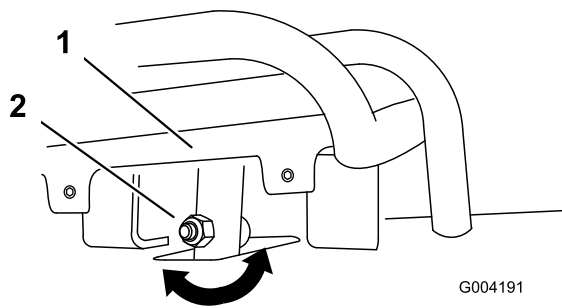
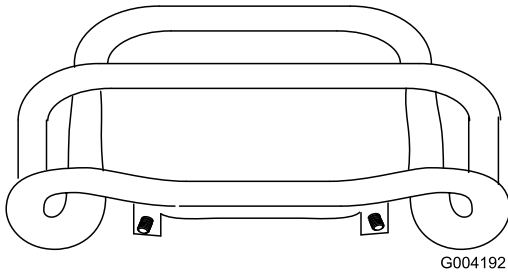

Figure 70
Figure 71
4. If the front of the traction control does not rest square and flush with the reference bar, loosen the flange nut and bolt in the stem of the traction control (Figure 70).
5. Adjust the traction control so that it rests flush against the reference bar when it is pulled straight back (Figure 70 and Figure 71).